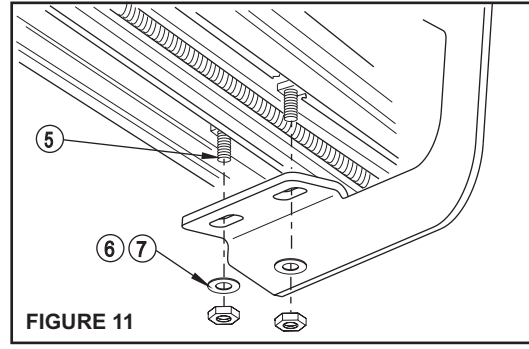

FIGURE 11
- STEP 7. Attach board to brackets as shown. Make sure board and brackets are properly aligned and tighten fasteners. Recommended torque values are 10 FT.LBS. for 5/16" square head fasteners and 7 FT.LBS. for 1/4" fasteners. **SEE FIGURE 11.**